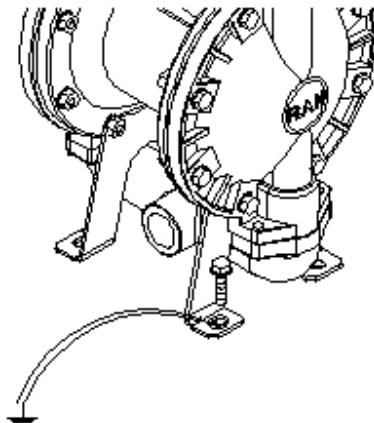

Figure 7- Pump grounding
3. Using a 8 mm socket wrench, remove the bolts (20) holding the fluid covers (9) to the air covers (1). Pull the fluid covers (20) off the pump. See Fig. 7.
4. Loosen but do not remove the diaphragm shaft bolts (8), using a 19 mm socket wrench on both bolts.
5. Remove o-ring (2), Teflon® diaphragm (if there is) and nubber diaphragm (7).
6. Pull the other diaphragm assembly and the diaphragm shaft (17) out of the center housing (1). Hold the shaft with a 19 mm open-end wrench, and remove the bolt (8) from the shaft. Disassemble the remaining diaphragm assembly.
7. Inspect the diaphragm shaft (17) for wear or scratches. If it is damaged, inspect the bearings (3) in place.
8. Remove the tap (4) which holds the pilot shaft (25) and diaphragm shaft (17).